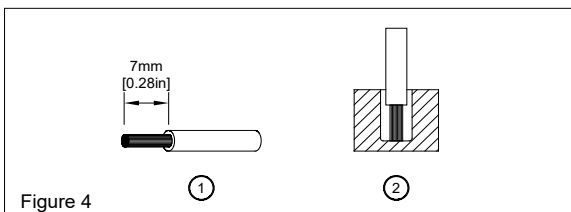

Figure 4
To secure reliable and shock proof connections, the stripping length should be 7mm (see Fig. 4 (1)). Please ensure that wires are fully inserted into the connecting terminals as shown in Fig. 4 (2). All wire strands must be fully inserted into the terminals with the screws securely fastened in order to ensure safety and maximum contact.